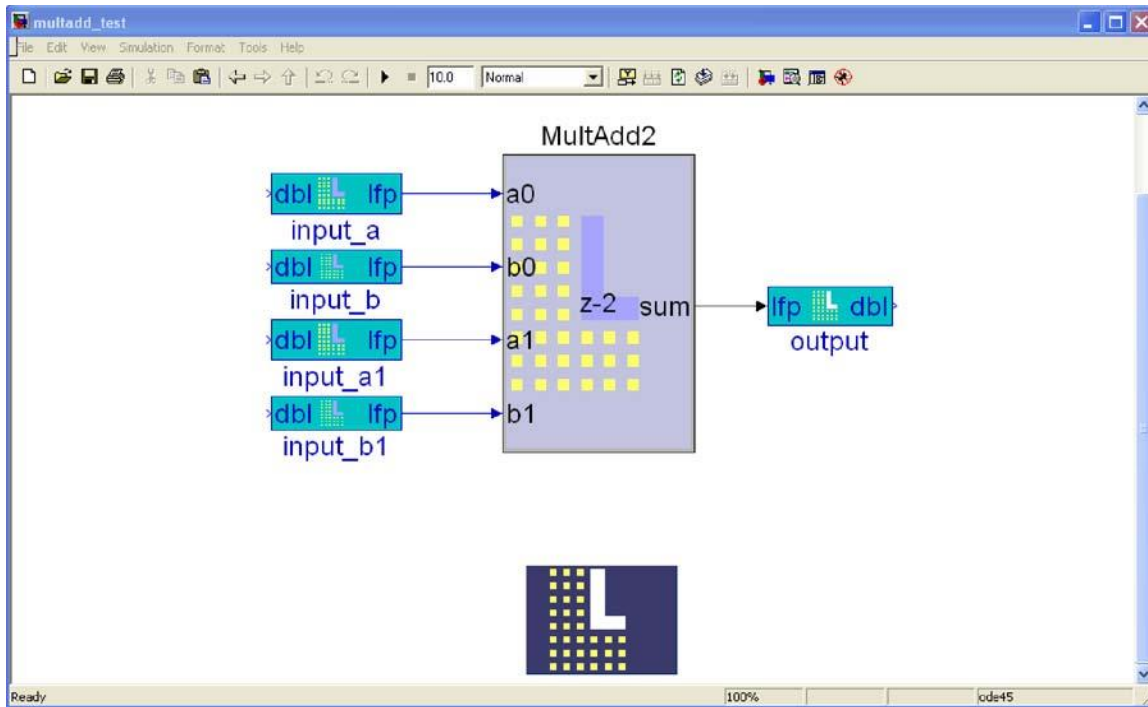

Figure 3.9. Simulink Design
- **Gateways In and Out** – The design is made of the blocks between Gateway In and Gateway Out and these blocks can be converted into HDL code. When the design is converted into RTL code, the signal fed into the Gateway In is translated into the test vector for the testbench and the signal coming out of the Gateway Out is the reference copy for self-check in the testbench. In Figure 3.9, the input_x blocks on the left are Gateway In and the output block on the right is the Gateway Out.
- **Generator** – The Generator block is used to convert the design into HDL files that can be instantiated in a HDL design. The Generate Block is identified by the Lattice logo as shown in Figure 3.9.